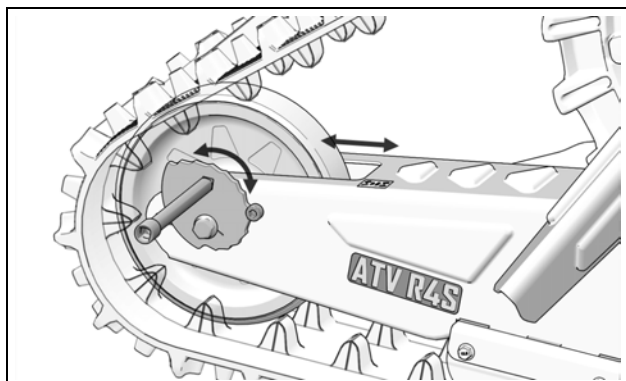

Figure 27
- Turn cam on each side and adjust tension as close as possible to the recommended tension. Figure 27.